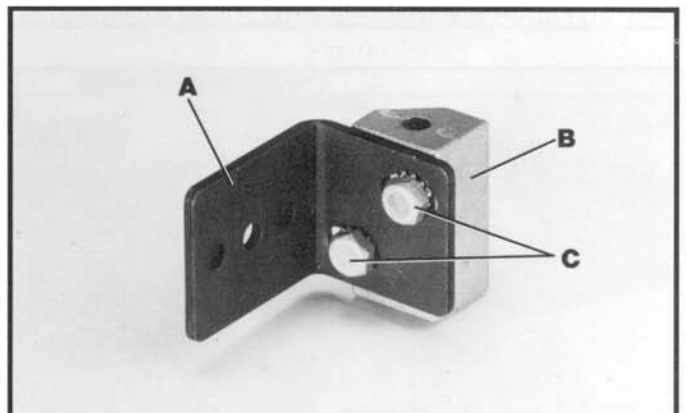

Fig. 4
4. Remove two screws from splitter bracket (B) Fig. 4. Fasten the splitter support bracket (A) Fig. 4, to splitter bracket (B) using two 1/2 inch-long screws (C) which were removed from splitter bracket (A) earlier, and 1/4 inch external tooth lockwashers as shown. **NOTE:** Do not completely tighten screws (C) at this time.